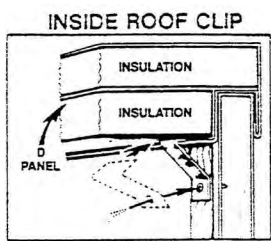

FIG. 1C
- C. Insert **Inside Roof Clips** in "D" (roof) panel. Using one (1) hexhead screw in each clip attach clip to "B" (side) panel (FIG 1C).